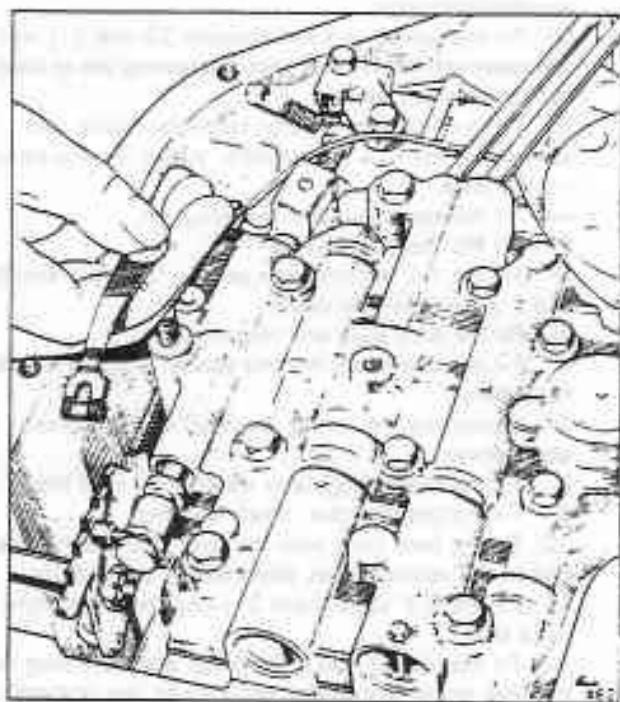

Fig. T12-16 Fitting the detent spring and roller
9. Fit the detent spring and roller assembly (see fig. T12-16); fit the securing screw and torque tighten to the figures quoted in Section T22.